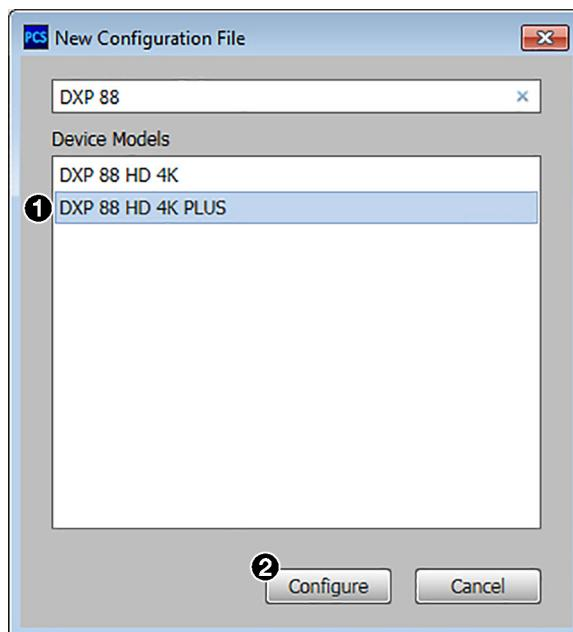

Figure 40. New Configuration File Dialog Box (DXP 88 HD 4K PLUS Selected)
2. Select the desired device model from the Device Models list (see figure 40, ①).
3. Click the **Configure** button (②). A new offline device configuration tab opens.